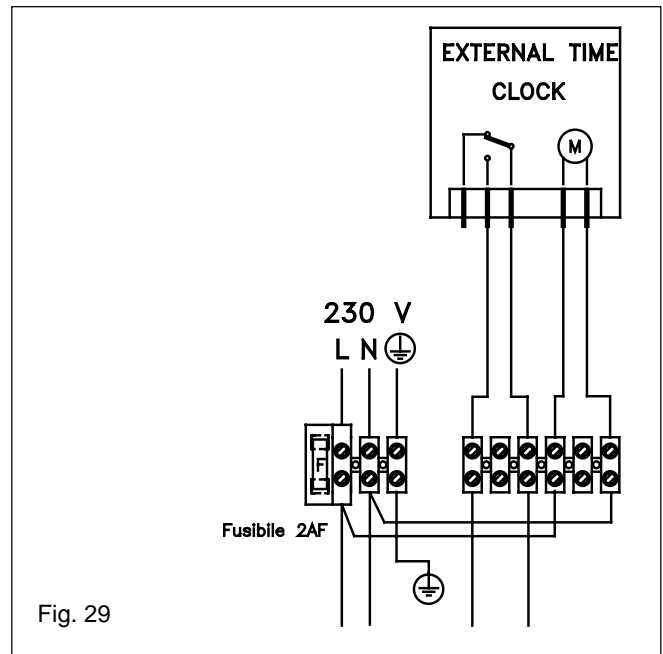

Fig. 29
8.1 CONNECTION OF A ROOM THERMOSTAT (fig. 29 & 29A)
Isolate the appliance from the electrical supply. Remove the appliance casing and PCB cover. Connect the room thermostat as shown in diagram fig. 29. A neutral supply can be taken from the appliance terminal strip if required. Carry out the electrical checks as described in section 7.11 prior to refitting the PCB cover and appliance casing.
Should the integral time clock be unsuitable, additional or alternative controls must be connected to the appliance terminal strip as shown in fig. 29 & 29A.